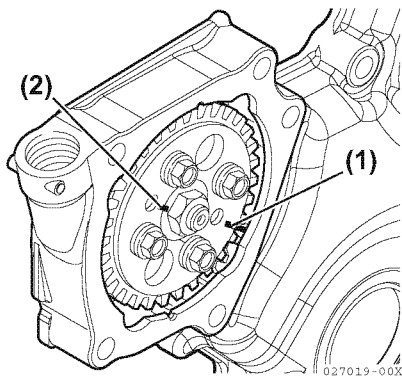

Figure 7-11
14. To aid in reassembly, make reference marks (Figure 7-11, (1), (2)) on the drive gear and idler gear.